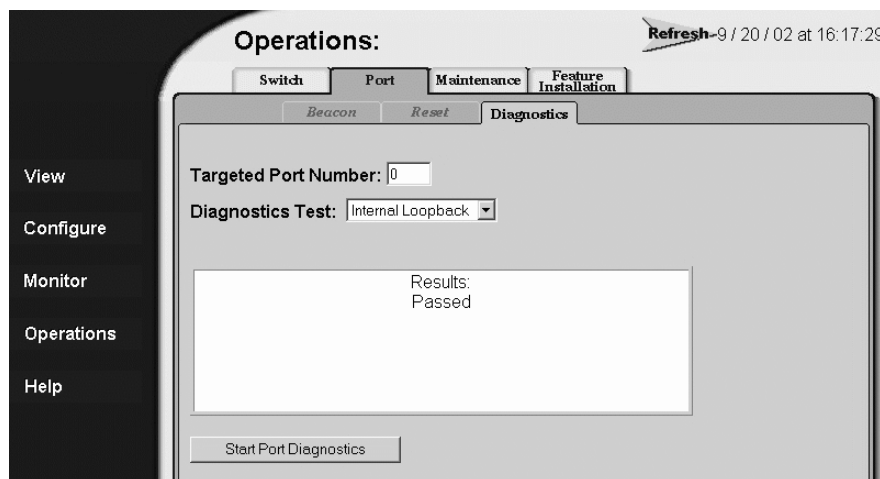

Figure 41: Completed diagnostics test
5. Results display when the diagnostics finish or when you terminate the test. If errors occur, record all error information and refer to the product service documentation for problem isolation. See Figure 41 for an example of the screen when tests are completed.